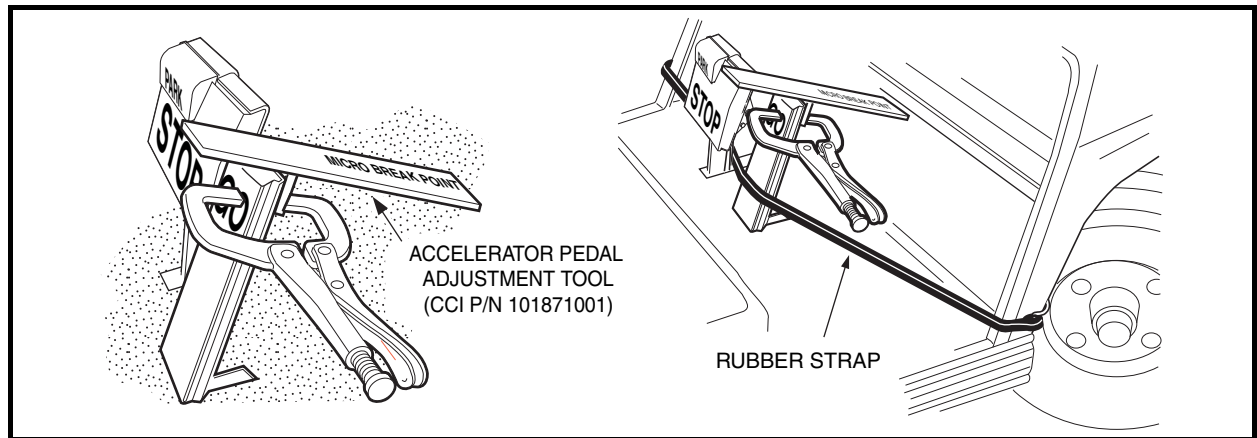

Figure 5-18 Accelerator Pedal Height Adjustment
- 4.1. Loosen the nut and bolt (Figure 5-17, Page 5-14) securing the accelerator pedal to the pivot plate. Clamp the accelerator pedal adjustment tool (CC P/N 101871001) to the accelerator pedal, with the end marked 'accelerator pedal height' closest to the floorboard. Press the accelerator pedal until the end of the tool rests against the floorboard; pedal height should be 5-5/8 inches (14.3 cm). Use a rubber strap to hold pedal in position against the floorboard and then tighten nut to 26 ft-lb (35.3 N·m) (Figure 5-18, Page 5-14).